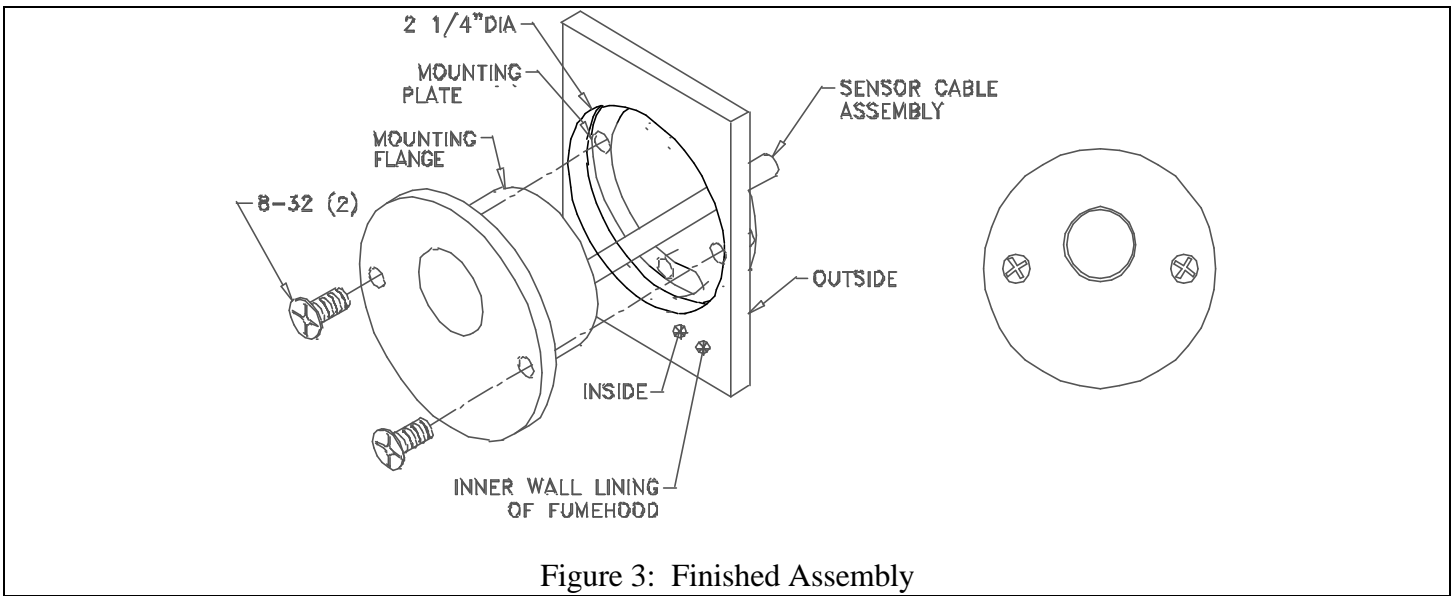

Figure 3: Finished Assembly
Step 2: Mount the MOUNTING FLANGE to the MOUNTING PLATE using 2 #8-32x5/8 inch screws (FIGURE 3).